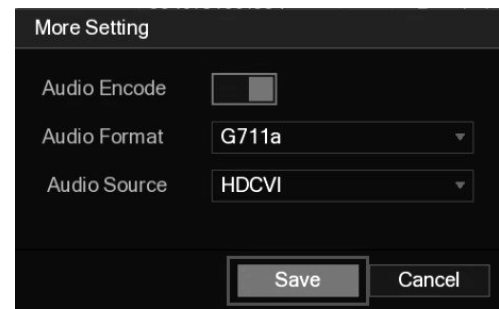

Figure 5-5
Step 3 In the Main Stream column, click **More Setting**. The More Setting interface is displayed. See Figure 5-5.